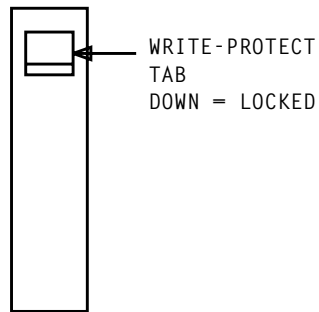

Figure 2. DAT Unit
3. See Figure 2. Put write-protect tab in the down (locked) position.